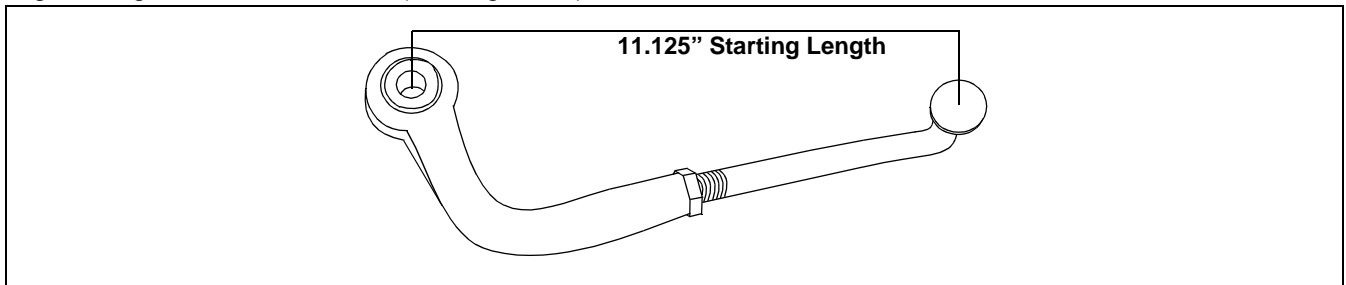

Figure 22
7. Disconnect each clevis pin at the end of each retaining arms to remove from tractor to check length and adjust if necessary. (See Figure 22)
- Shorten the distance shown on Figure 22 by turning the 90 degree rod one complete turn in. (Repeat if same result)
- Lengthen the distance shown on Figure 22 by turning the 90 degree rod one complete turn out. (Repeat if same result)
**Note:** If after a number of attempts to level the mower deck fails to succeed, adjust the retaining arm to their original lengths of 11.125 inches. (See Figure 22)